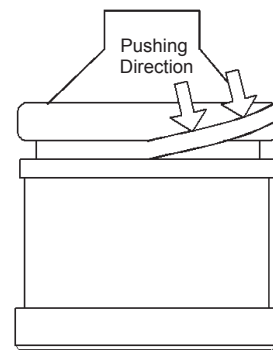

Figure 8 - Installing Seal Ring
1. To insert the seal ring in the valve plug groove, place it over the conical top of the plug, then push down evenly from all sides until the ring slips into the groove. See Figure 8.
2. Install the back-up ring (28) onto the plug using care not to damage the ring on any sharp surfaces. The back-up ring does not require lubrication, however, a light coating of compatible lubricant will help install the seal.
3. Install the seal ring (9) over the back-up ring (28).
Figure 8 details the tightening sequence for the bonnet/body bolts torques for a 72000 Series. Evenly apply torque to the amount indicated on the valve assembly drawing (typical torque values for SA193 B7, SA193 B7M, and SA193 B16 bolting materials are provided as references in Table 2).